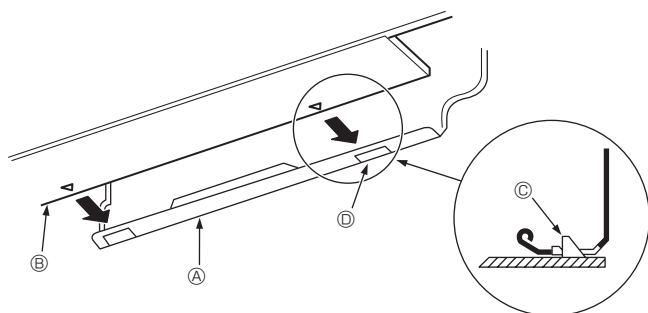

Fig. 3-12
3. While inserting the refrigerant piping and drain hose into the wall penetration hole (penetration sleeve), hang the top of the indoor unit to the mount board ①.
5. Fasten by pushing the bottom part of the indoor unit onto the mount board ①. (Fig. 3-12)
- * Check that the knobs on the bottom of the indoor unit are securely hooked into the mount board ①.
- ① Mount board
- ② Indoor unit
- ③ Hook
- ④ Square hole